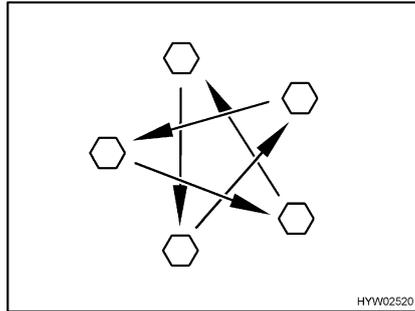

Fig. 206 Tighten the wheel nuts or wheel bolts cross-wise
- Check regularly that the wheel nuts or wheel bolts are firmly seated. Re-tighten the wheel nuts or wheel bolts of a changed wheel after 50 km (30 miles) (Fig. 206).
- When using new or newly painted rims, re-tighten the wheel nuts or wheel bolts once again after approx. 1,000 to 5,000 km (600 miles to 3,000 miles) (Fig. 206).
- ▷ Tighten the wheel nuts or wheel bolts cross-wise (Fig. 206).